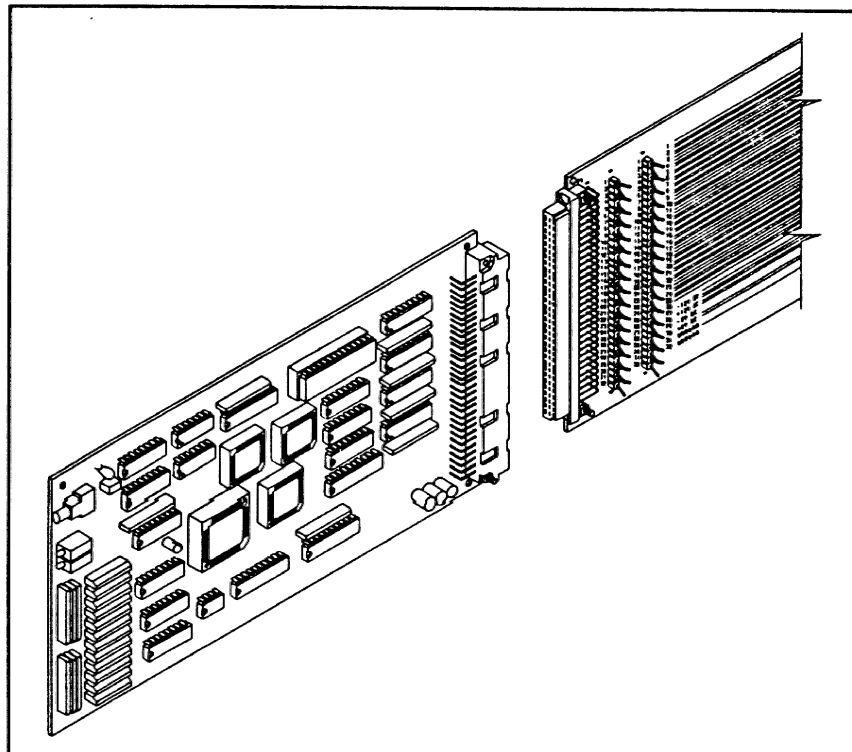

FIGURE 7-1. *Extender Board Use*
- b) Put the Remote Control module on the extender board. See Figure 7-1.